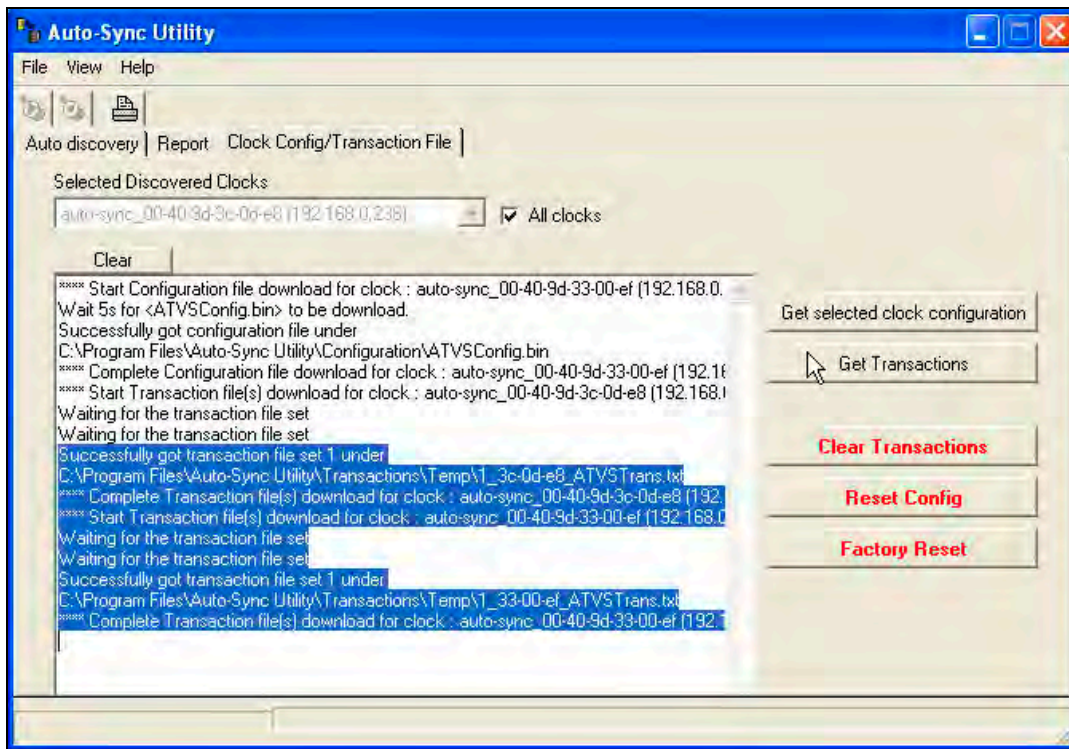

Figure 5-21. Auto-Sync Utility Get Transaction File.
**Get Transactions:** copy the transaction file from the selected clock to a text file with the name of the clock [for example "3c-0d-e8\_Trans.txt"]. This file will be located in a folder called Configuration at the following path **Program Files/Auto-Sync Utility/Transaction**. If multiple clocks are selected, all the selected clocks downloaded will be the one copied to this folder. If a report is created from these files using the utility, any transaction file in the folder will be included in the report (see Figure 5-21). See the status window in Figure 5-21 for an example of configuration file download.